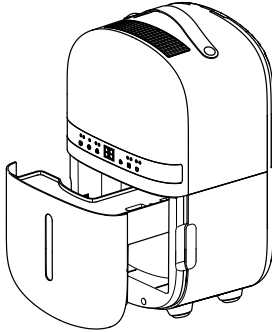

Fig. 2
1. Empty the water tank (5) when the appliance indicates the necessity by the indicator light (2g) and after each use.
2. Grasp the tank handles with both hands and remove it firmly but gently from the case (Fig. 2).